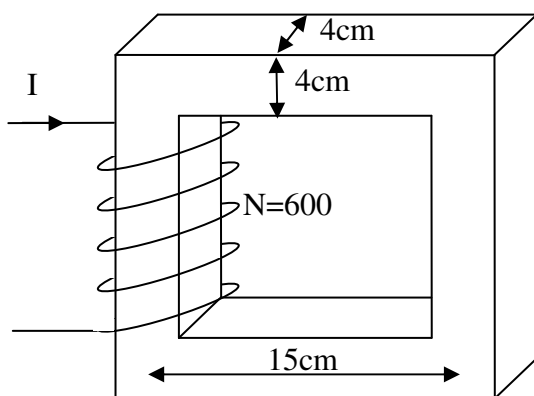

Figure 6.1
- (i) the motor line current, input power and power-factor and state whether this is leading or lagging. (4)
- (ii) the mechanical output torque of the motor if it is operating at 1440 rpm and with an efficiency of 93%. (4)
- (i) the total active and reactive power in kW and kVAr respectively. (4)
- (ii) hence calculate the total KVA and overall power-factor. (2)
**c.** Calculate the value of capacitance per phase, connected in a delta configuration across the supply input to the factory, required to correct the overall power-factor to 0.9 lagging. (6)
- a. A rectangular iron core, shown in figure 6.1 below, has a coil of 600 turns wound on it. The mean length of each side of the core is 15cm and it has a cross-section of 4cm  $\times$  4cm. The relative permeability of the iron is 900. Assume the permeability of air,  $\mu_0 = 4 \times \pi \times 10^{-7}$  H/m.
- (i) Calculate the reluctance of the magnetic circuit. (2)
- (ii) What value of current flowing through the coil is required to establish a flux density of 1.2T in the iron core? (2)
- (iii) Calculate the self inductance of the coil. (1)